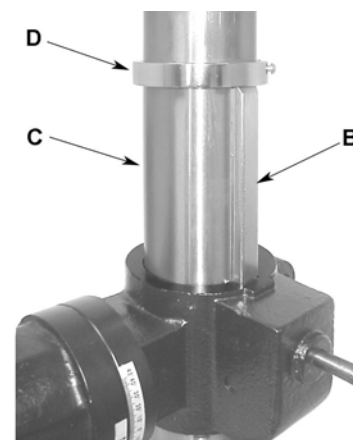

Figure 3
6. Slide the rack ring (D) over the column (C), placing it so it rests against the rack (B) as shown in Figure 3 and tighten firmly.